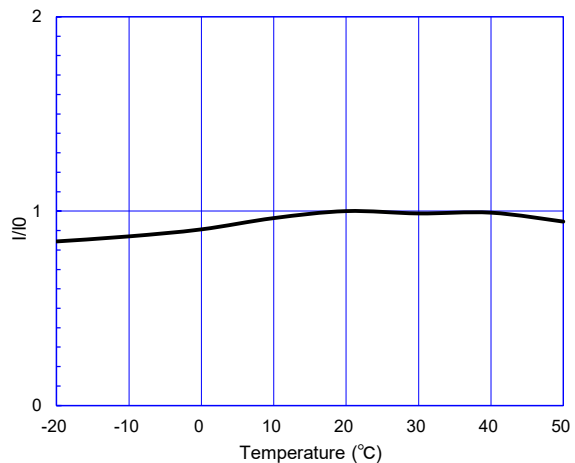

Fig. 7 - Temperature dependency (I₀=sensor output current at 20°C)
Figure 7 shows the sensitivity change with temperature measured using the recommended basic measuring circuit. The Y-axis shows the ration of output current in 10ppm of NO₂ at various temperatures (I) to the output current in 10ppm of NO₂ at 20°C. The sensitivity gradually decreases as the temperature decreases, and the sensitivity slightly increases as the temperature increases. Therefore, the temperature dependency of nitrogen dioxide sensitivity of FECS42-20 can be compensated by a NTC thermistor.